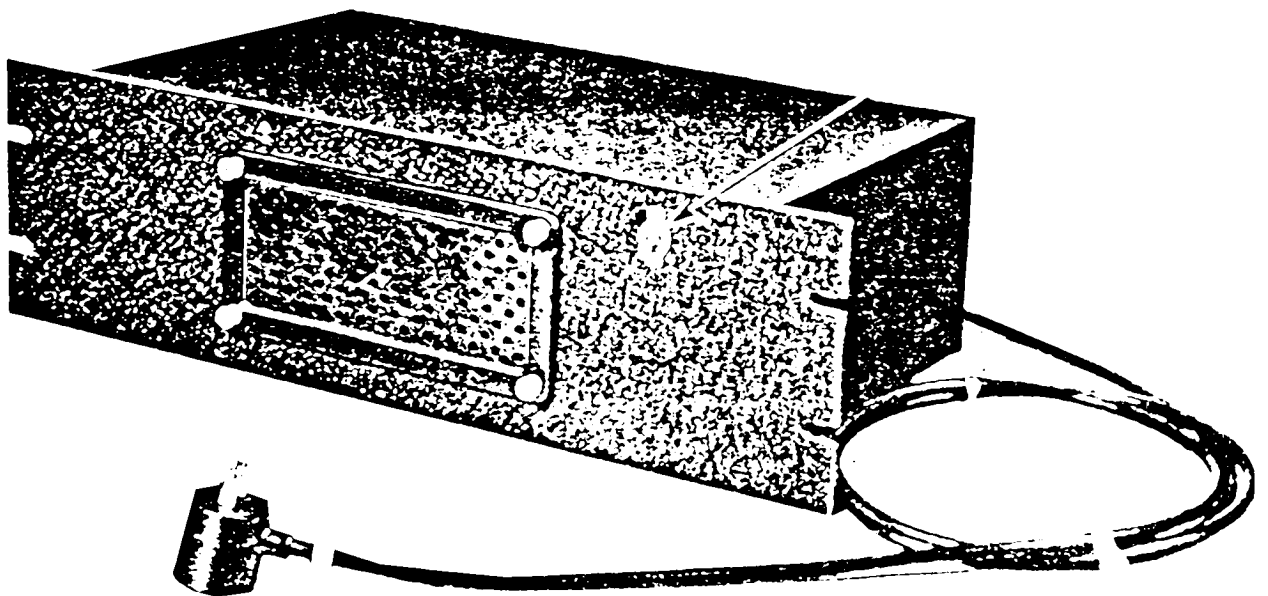

Figure 15. Power supply (National type SPU-697) (rectifier power unit, Navy type No. 20090).
c. Power Supply SPU-697 (rectifier power unit, Navy type No. 20090) operates from 115-volt, 50- to 60-cycle alternating current. (See fig. 15.) It is a rack mounting unit similar in appearance to Power Supply SPU-686-S. The OFF-ON switch (S-2-a) is mounted on the front panel along with a removable grill behind which is rectifier Tube JAN-80. Output voltages for both filament and plate supply are taken off at the four-prong socket (X-3) in